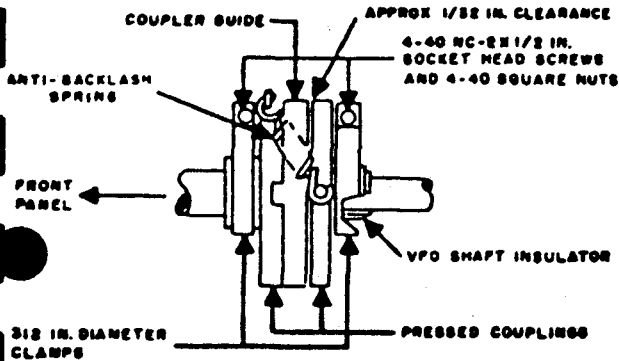

FIGURE 1
(1) PTO (VFO) Subchassis Removal **WARNING!!!**: Handle the PTO subchassis carefully to prevent damage or misalignment. To prevent misalignment, do not turn the PTO subchassis shaft or the KILOCYCLE CHANGE shaft (either outside or inside the front panel). To remove the PTO the R-390A is placed upside down. If the bottom dust cover is present, remove it. The PTO subchassis is in the center of the bottom three compartments. Locate the Oldham coupler and remove the anti-backlash spring, see Fig. 1 below. The Oldham coupler connects the PTO tuning shaft to the kilocycle change shaft. You will probably have to rotate the kilocycle change shaft with the front panel knob to bring the anti-backlash spring into a convenient position for removal. Do not loosen the spline socket head screws. To remove the spring I use a small hemostat which is ideal for delicate work like this. (Hemostats are also useful for soldering and unsoldering work, holding small parts, and other tasks, and are sold through several supply catalogs and at larger electronic supply stores. Or if you know a doctor or nurse, they will probably give you one or two free.) Put the spring in a safe place and do not lose it. Next rotate the kilocycle change knob until the Oldham coupler guide (the central disc) is in the position shown in Fig. 1 (when viewed from above). At this point, if you are the careless type, you should lock the KILOCYCLE CHANGE shaft with the front panel DIAL LOCK. Disconnect the blue plug P-109. (The metal cylindrical plug cover/lock mechanism rotates to unlock, and then the blue plug can be pulled out. If you cannot unplug P-109, examine the plug closely and make sure you have unlocked it.) Trace the white wire through the hole in the PTO compartment to the top side of the R-390A, unplug it from the RF subchassis (J 217), and pass it through the hole in the PTO compartment. Loosen the three green Phillips head screws completely, and carefully lift out the PTO subchassis. Because of the positioning of the Oldham coupler, and because you have locked the kilocycle change shaft, you must lift straight up. The coupler guide will probably fall free, but in any case remove the coupler guide and put it with the anti-backlash spring for safe keeping. PTO removal can also be accomplished with the R-390A on its side, but it is not as easy to replace the coupler guide in that position.
Next rotate the kilocycle change knob until the Oldham coupler guide (the central disc) is in the position shown in Fig. 1 (when viewed from above). At this point, if you are the careless type, you should lock the KILOCYCLE CHANGE shaft with the front panel DIAL LOCK. Disconnect the blue plug P-109. (The metal cylindrical plug cover/lock mechanism rotates to unlock, and then the blue plug can be pulled out. If you cannot unplug P-109, examine the plug closely and make sure you have unlocked it.) Trace the white wire through the hole in the PTO compartment to the top side of the R-390A, unplug it from the RF subchassis (J 217), and pass it through the hole in the PTO compartment. Loosen the three green Phillips head screws completely, and carefully lift out the PTO subchassis. Because of the positioning of the Oldham coupler, and because you have locked the kilocycle change shaft, you must lift straight up. The coupler guide will probably fall free, but in any case remove the coupler guide and put it with the anti-backlash spring for safe keeping. PTO removal can also be accomplished with the R-390A on its side, but it is not as easy to replace the coupler guide in that position.